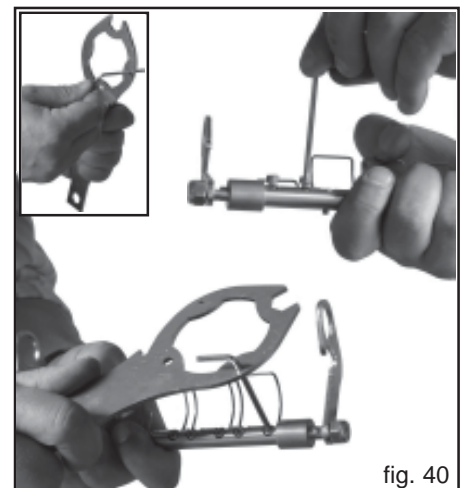

fig. 40
- 5) Use the supplied multi-purpose wrench and an Allen wrench (no. 3) to loosen the fastening screws of the spring elements as shown in Figure 40.